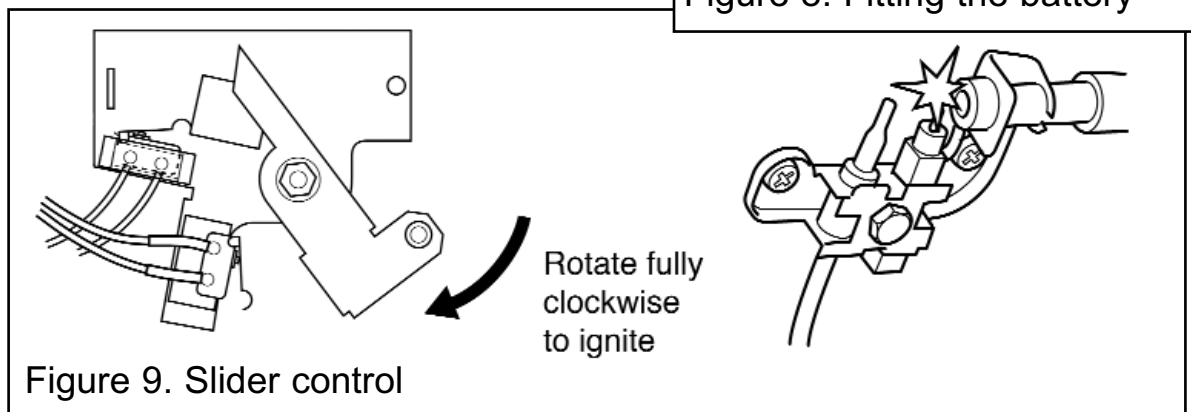

Figure 9. Slider control
- Depress the control pivot plate as far as it will go. This should close the ignition circuit. Sparks should be seen tracking from the electrode pin to the pilot tip (See figure 9).
2. Depress the control pivot plate as far as it will go and hold in this position (See section 6, figure 9). This should close the ignition circuit and (now that the gas is connected) simultaneously open the gas tap allowing the gas to flow to the pilot. Wait a few seconds while the air is purged. The electronically generated sparks should light the pilot. The pilot should then light the main burner at its low setting. There may be a delay of up to four seconds between the pilot lighting and ignition of the gas at the main burner. This is normal and is due to the time required to fill the main burner compartment with sufficient gas for ignition.